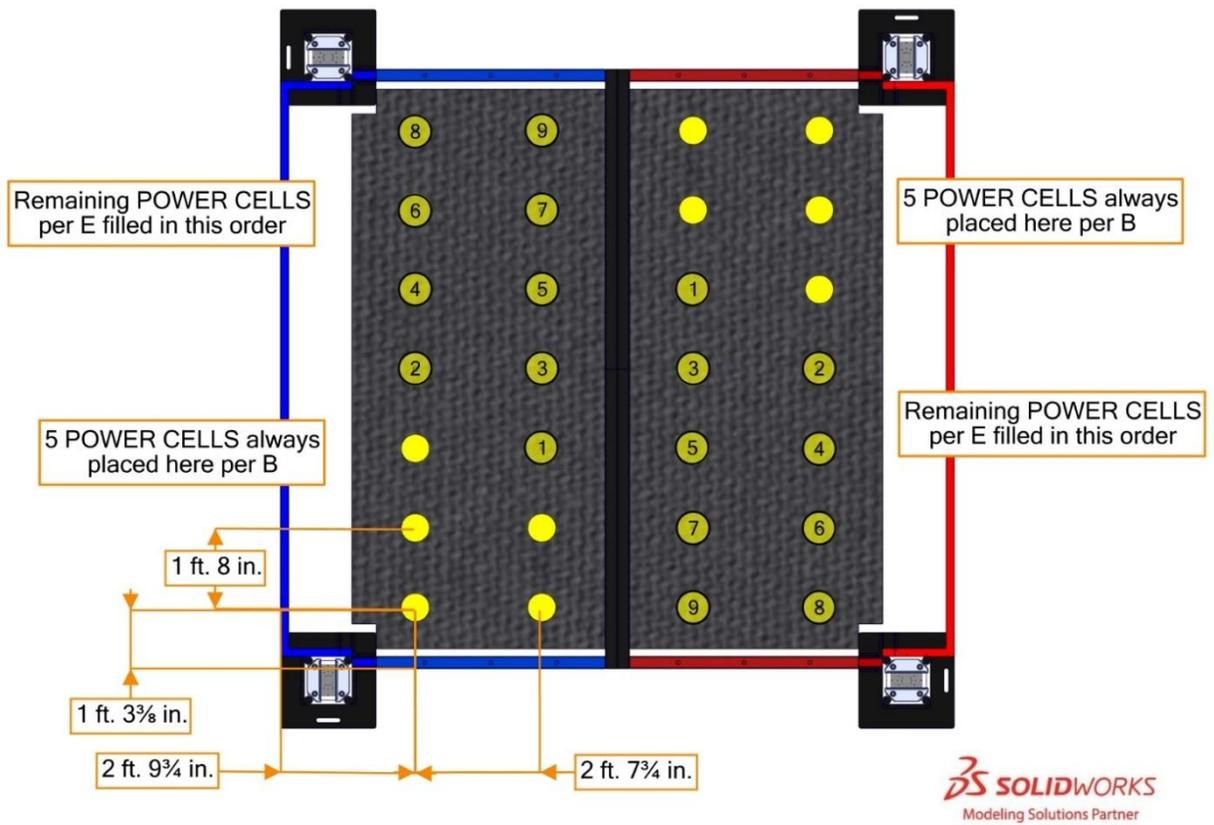

Figure 4-2: POWER CELL setup inside RENDEZVOUS POINT
- A. five (5) POWER CELLS in each of the two (2) TRENCH RUNS
- i. two (2) POWER CELLS are placed on each of the TRENCH baseplates further away from the center of the FIELD.
- ii. three (3) POWER CELLS are placed centered in the width of each TRENCH RUN, spaced at 3-ft. (~91 cm) intervals. Small rings are used to keep them in place prior to the start of a MATCH. Rings are 1/8 in. (~3 mm) thick, 1 3/4 in. (~4 cm) diameter O-rings (McMaster Item#: 9452K63). Rings are secured to the carpet by tape.
- B. five (5) POWER CELLS placed on the floor protection inside each ALLIANCE'S RENDEZVOUS POINT as shown in Figure 4-2.
- C. five (5) POWER CELLS on the racks in each ALLIANCE STATION'S LOADING BAY,
- D. each of the three (3) teams may preload up to three (3) POWER CELLS in their ROBOT, such that they are fully and solely supported by that ROBOT, and
- E. remaining POWER CELLS (zero (0) to nine (9) per ALLIANCE, depending on decisions made in D) inside the corresponding ALLIANCE'S RENDEZVOUS POINT as shown in Figure 4-2.